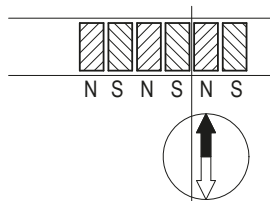

Fig. 8: Determination of the pole position. Cutting the magnetic strip
3. If necessary, use a compass needle to determine the location of the poles on the magnetic strip (see Fig. 8).